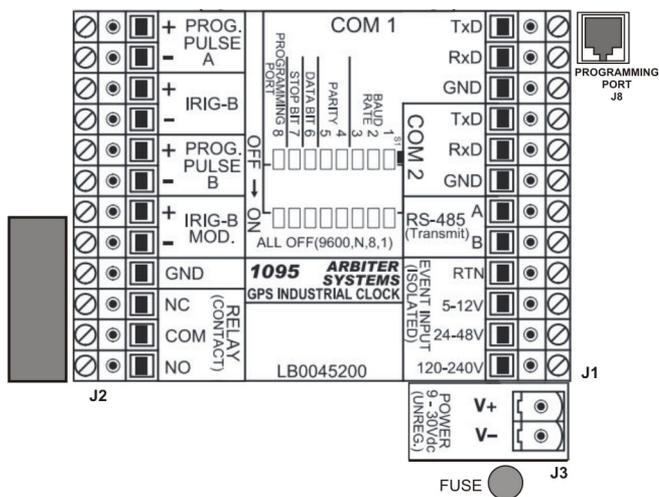

Figure 2.2: Connector Block Wiring
5. Connect the chosen wire pairs to the Connector Block and verify. See Figure 2.2.
Listed below are the meanings of the various connections on the connector block, and configuration methods. Use this section, including Figure 2.2, to identify and connect your chosen signal wires.
- **Event Input:** Three input ranges: 5 – 12 Vdc, 24 – 48 Vdc, 120 – 240 Vdc, and RTN. Inputs are isolated. See Figure 2.2.
- **IRIG-B MOD.:** Two terminals, marked "+" and "-". 1 kHz sinewave at 4.5 Vpp, 3:1 AM modulation ratio. See Figure 2.2.
- **Relay Contacts:** Three terminals, marked NC, COM and NO (Normally Closed, Common, Normally Open). Conditions are when relay is de-energized (clock powered OFF). The information below gives the contact condition for two states: (1) Fault, or Power OFF, and (2) No Fault, or Power ON.
Connect the GND terminal on the left terminal block (see Figure 2.2) to one or more wires of the multi-conductor cabling that are connected to a station ground.
A user replaceable fuse pushes into the circuit board-mounted holder. Fuse by Little Fuse #370-1160, 250 V, 1.6 Amps. See Figure 2.2.
Caution: Verify polarity before connecting inlet power connections. While the Model 1095A/C is protected from reversed polarity of the inlet power, it will not operate if reversed. Note that the negative inlet lead is nearest the fuse. See Figure 2.2.
To verify communications, or to configure, use the Programming Port at J8 (RJ11 connector). See Figure 2.2 at the upper right. An accessory, Programming Cable Kit (part no. AS0067200), includes an RJ11 serial cable and DB9F to RJ11 adapter. To make a serial connection between a computer and the 1095A/C, see Section 1.3.